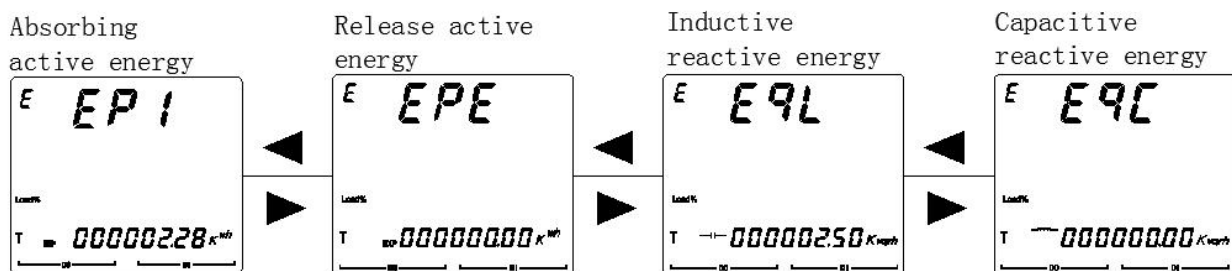

Figure 14
5.2.3 View the power parameters of the PM-310/320 as shown in Figure 14.